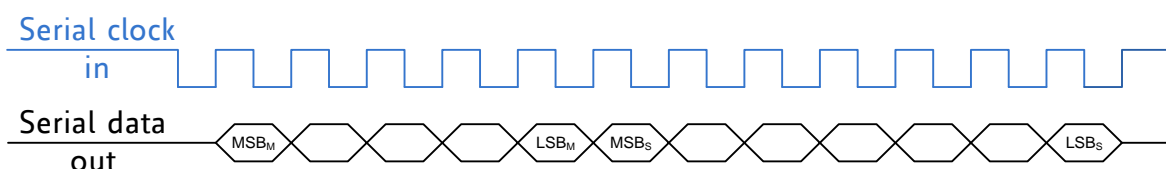

Figure 15.1 Example for SSI output configuration
- Set the number of the single- and multiturn data with *SINGLE_TURN_RES_OUT* resp. *MULTI_TURN_RES_OUT*. The real number of data bits is the given parameter setting + 1 (see Figure 15.1).